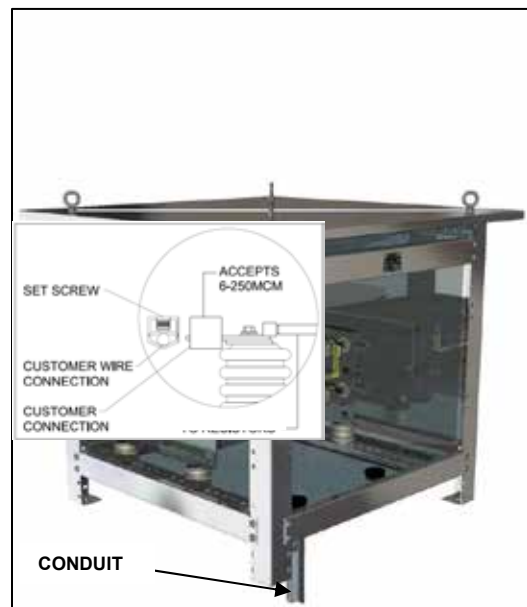

Figure 2: Bottom entry
2. With the cables entering via rigid conduit entering from the bottom of the enclosure, the neutral connection is made directly on the H1 terminal of the grounding transformer. A compression type lug or NEMA 2/4 hole pad is used for terminal connection. Alternately, the lug or terminal may be mounted on a stand-off insulator to simplify installation. Location and termination of the conduit is the customer's responsibility. (See Figure 2.)